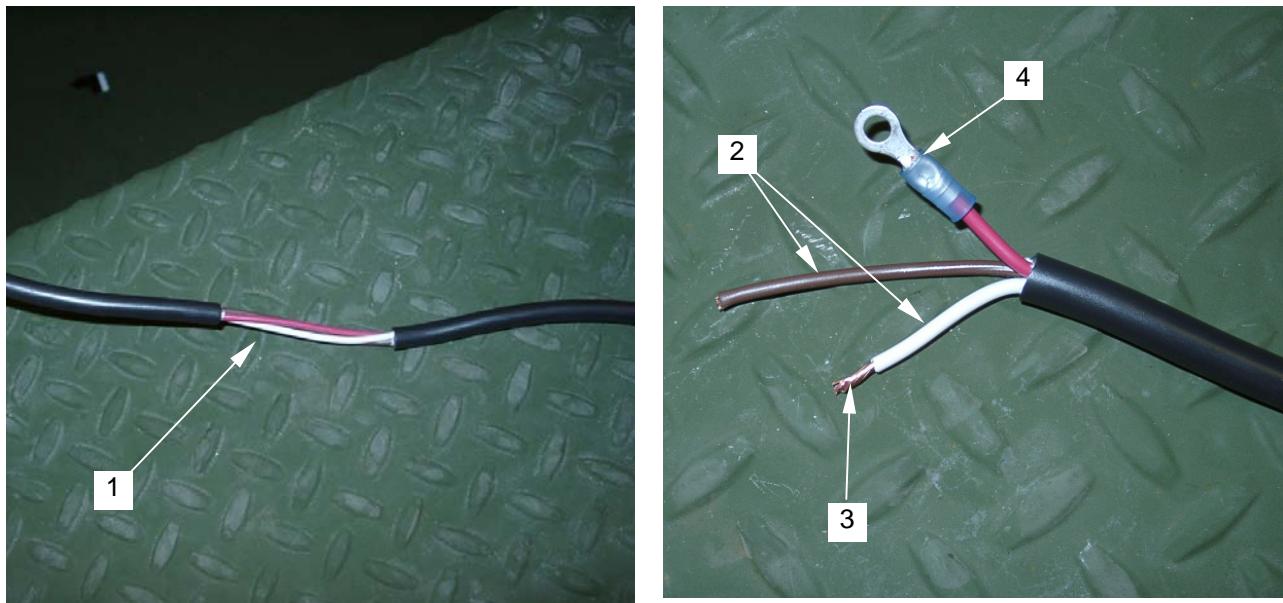

Figure 6. Wire Insulation
10. Strip 6-in of outer insulation off of wire (**figure 6, item 1**).
11. Cut wires to same length as those being replaced (**figure 6, item 2**).
12. Strip 3/8-in insulation off individual wires (**figure 6, item 3**).
14. Install and crimp ring terminal to wires (**figure 6, item 4**).